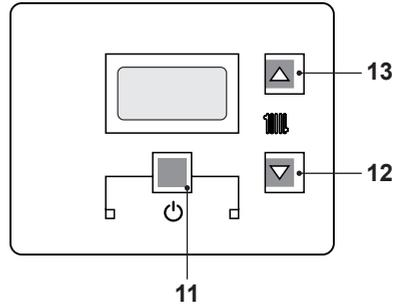
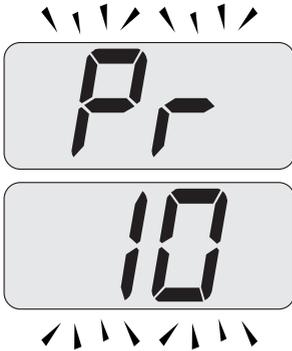

Fig. 7.35
Fig. 7.37
- Enter the "programming mode" by pressing keys 11 - 12 - 13 (Fig. 7.35) for 10 seconds at the same time until the letters **Pr** that al-
- Scroll the various parameters using keys 12 or 13 until the letters **Pr** that alternate with code **10** are displayed on the LCD display, indicating that "parameter 10" (Fig. 7.37) has been activated.
- Press keys 11 and 13 (Fig. 7.35) at the same time until the value of parameter 10 (30=180 seconds) is displayed on the LCD display (Fig. 7.38).
- By pressing key 11 (Fig. 7.35) confirmation of the inserted value is obtained.
- Press keys 11 and 12 (Fig. 7.35) at the same time to exit without changing the value (return to the parameters list Fig. 7.37).
- Press keys 11 - 12 - 13 (Fig. 7.35) at the same time for 10 seconds to exit the "programming mode".